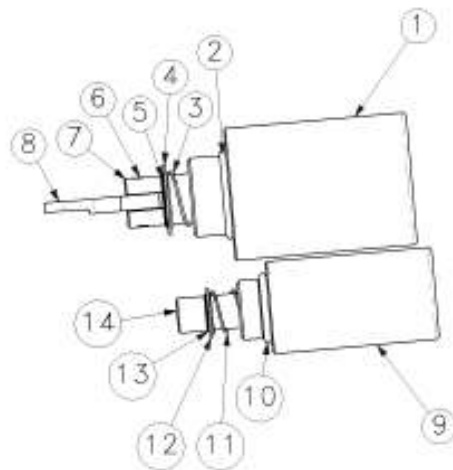

FIGURE 9
- 3) Apply anti-seize to the threads on the solenoids and thread them in by hand with the side cover off of the motorcycle. Install the lockout solenoid (PN 420-F5R) as a complete assembly as shown in Figure 9.
- 2) Apply anti-seize to the threads on the solenoids and thread them in by hand with the side cover off of the motorcycle. Install the lockout solenoid (PN 420-F5R) as a complete assembly as shown in Figure 9.